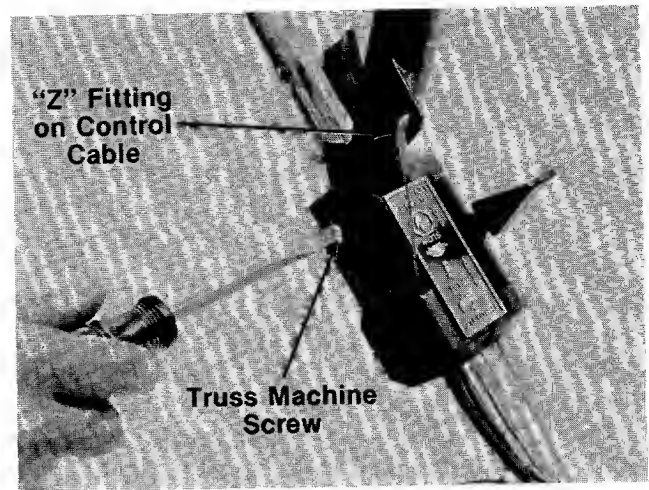

FIGURE 18.
5. Remove one truss machine screw on the inside of the control housing as shown in figure 18.